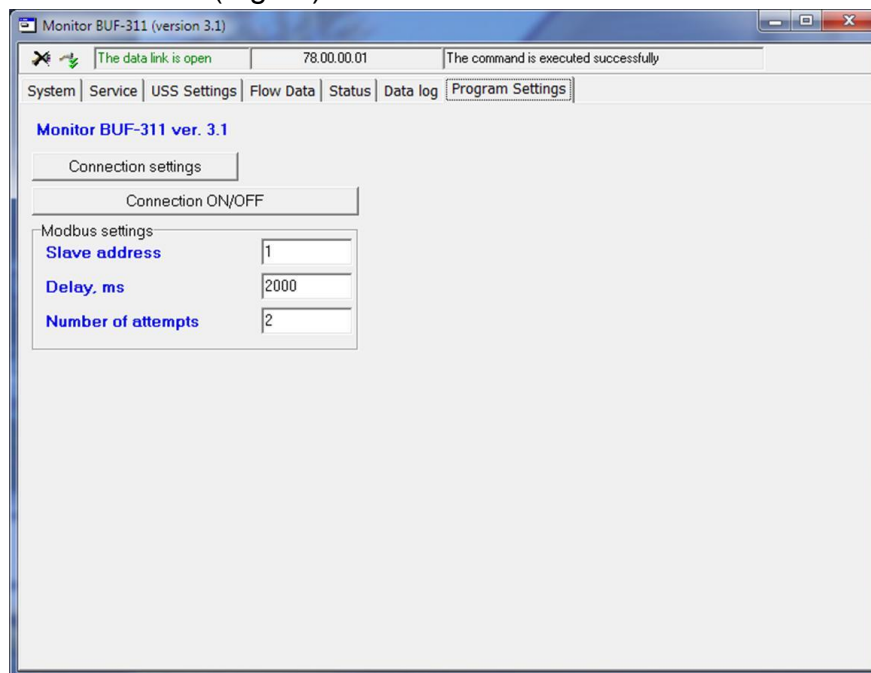

Fig.12. "Program Settings" window
- 4.1.7. If the flow meters are connected in a network, open the "**Program Settings**" tab (Fig.12).